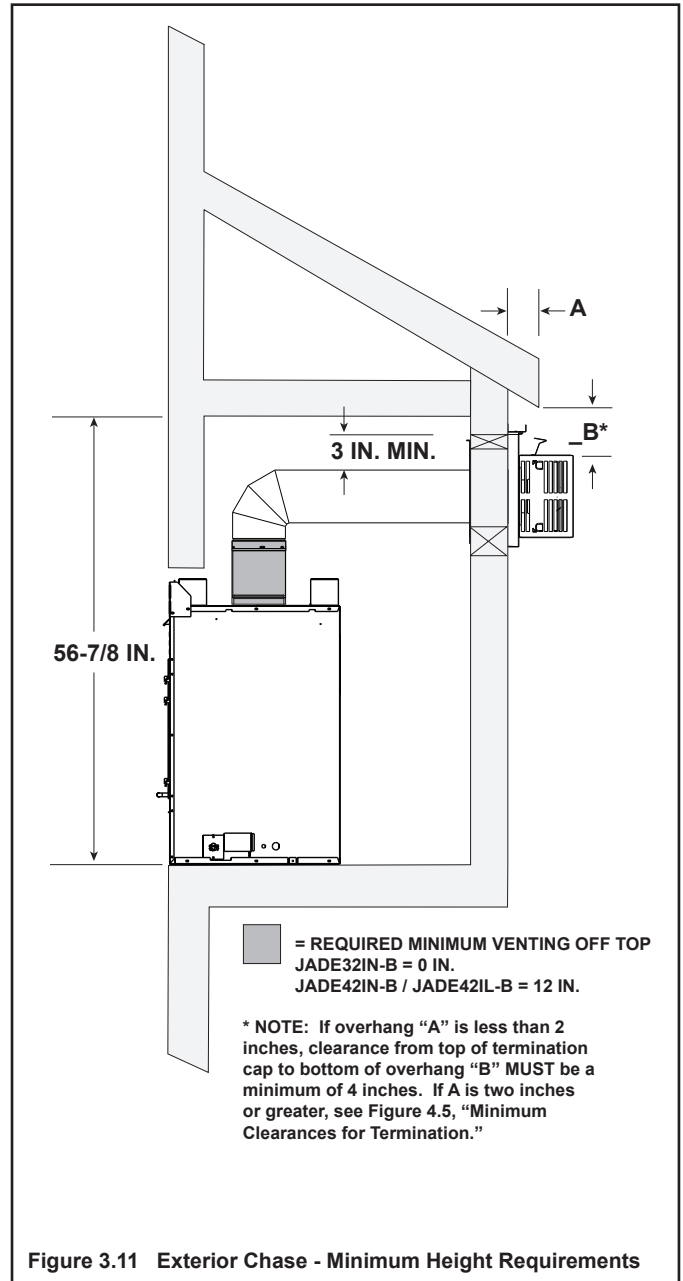
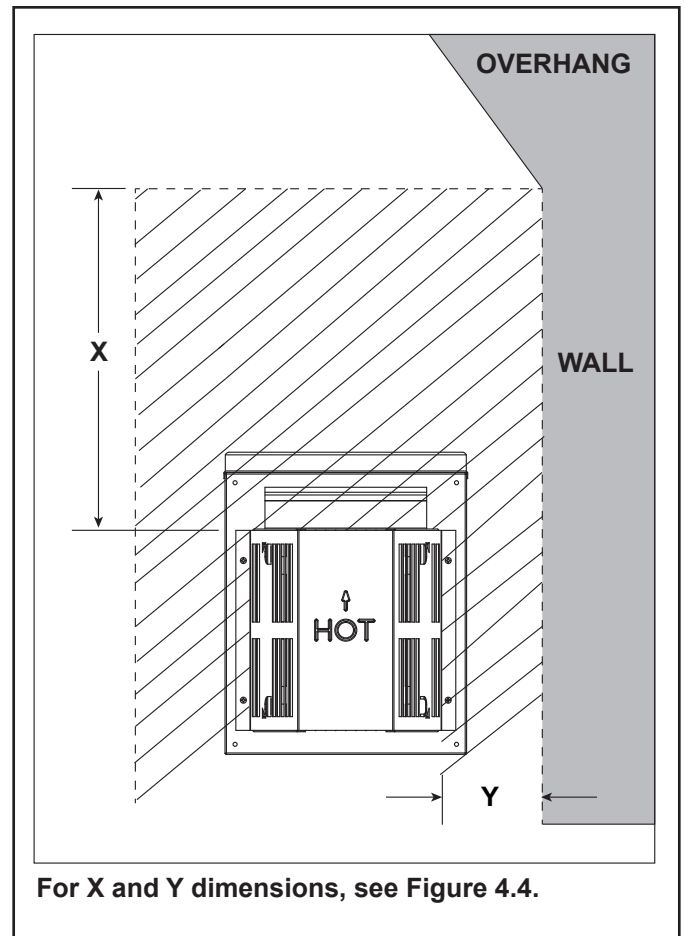

Figure 3.11 Exterior Chase - Minimum Height Requirements
Figure 4.4 Measure Horizontal and Vertical Termination Clearance to Trapezoid Portion of Cap
Minimum height requirements for an exterior chase on a top-vented appliance are shown in Figure 3.11. Reference Figure 4.4 for additional clearances.
- Measure horizontal and vertical termination cap clearances as noted in Figure 4.3 and Figure 4.4.